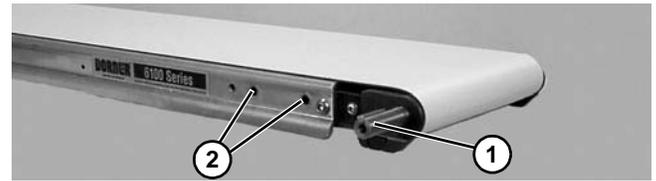

Figure 16
- Locate drive output shaft (Figure 16, item 1) and remove two (2) screws (Figure 16, item 2).